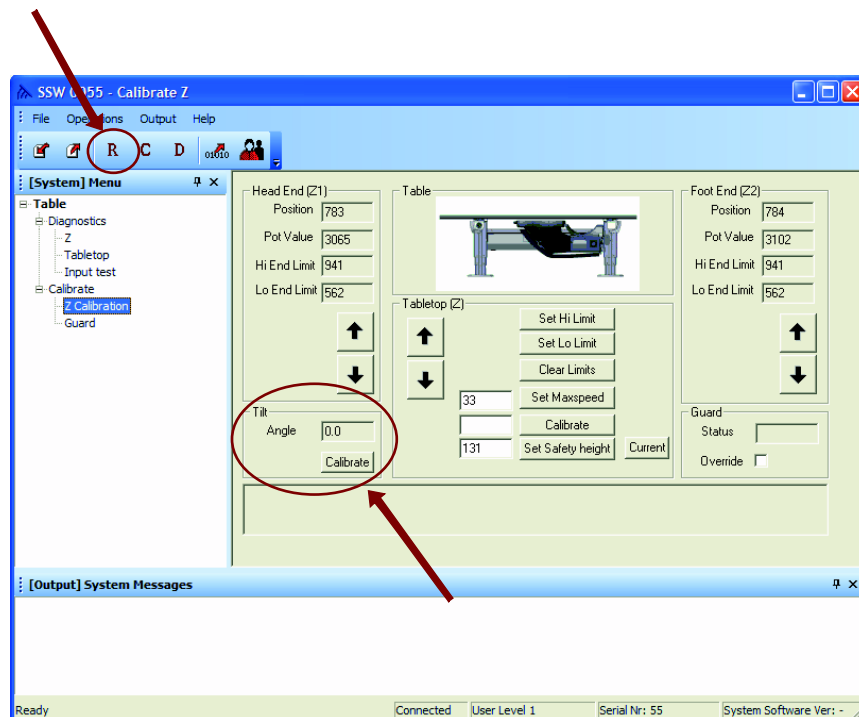

Fig. 4-159 Reset button
6. Press the *Tilt Calibrate* button (lower left corner of the view), see **Fig. 4-159**. The displayed angle shall now be set to 0.0°.
7. Press the reset button (R), see **Fig. 4-159**.